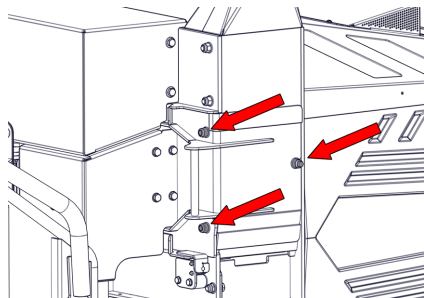

Figure 20 - Rotor Housing Access Hatch
3. Remove the three nuts and washers retaining the rotor housing blade access hatch and remove the hatch (Figure 20).